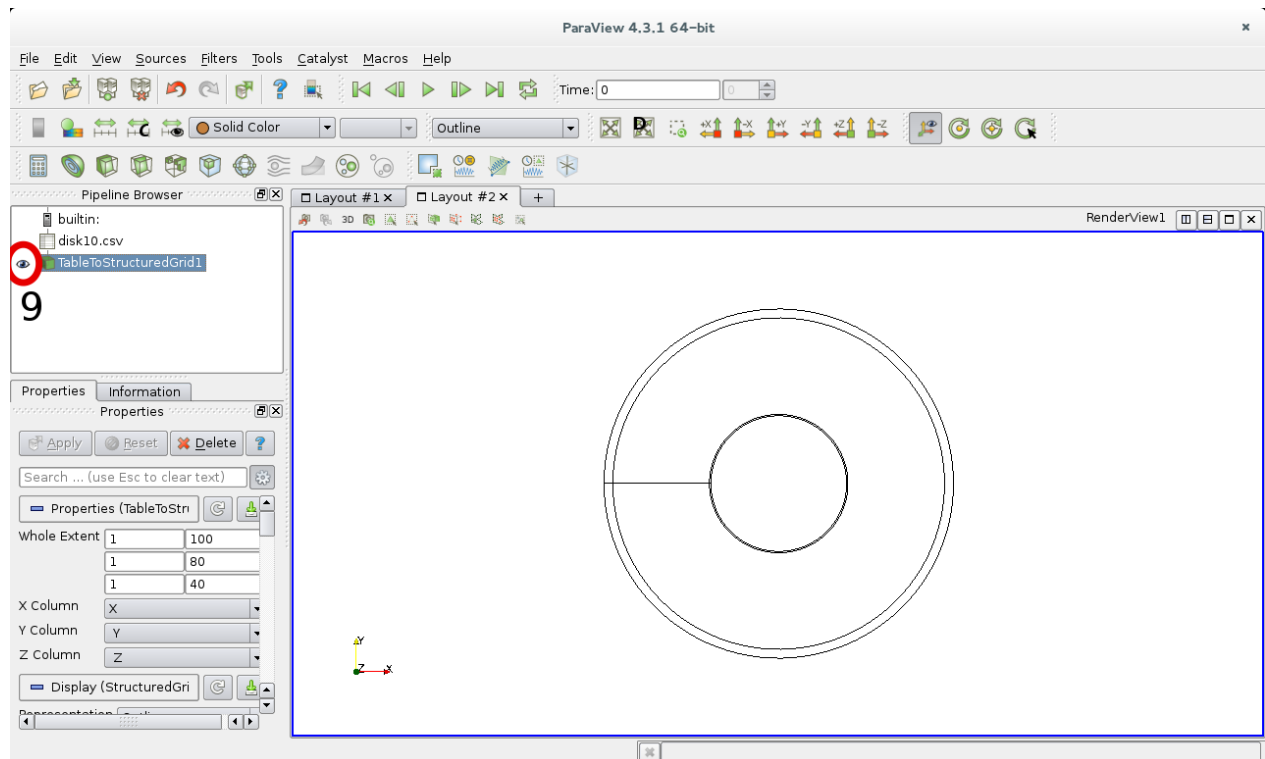

Figure A.4: 3D visualization with Paraview. Step 9.
9. Click on the eye shape symbol (see figure A.4) and you will see the outline grid visualization as the one showed in figure A.4.